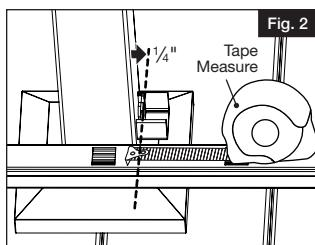
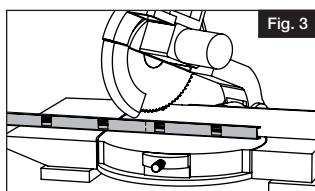

Fig. 2
Fig. 3
- Plumb and level the posts using leveling shims (included) (Fig. 2), secure the posts in place with appropriate fasteners (sold separately) and install base trim on each post (Fig. 3).
- Install base trim sections around post. Take one side of base trim and push plastic plugs through the hole underneath. Take second half of base trim and push together (Fig. 3).
- Tighten bolts, install base trim sections around post. Take one side of base trim and push plastic plugs through the hole underneath. Take second half of base trim and push together (Fig. 3).
- From marked lines, mark additional parallel line $\frac{1}{4}$ " from first line to allow for bracket clearance (Fig. 2).
- Align top rail and top rail cap with bottom rail and mark all before cutting to size. Then cut all to same length with a fine-tooth carbide blade. (Fig. 3).